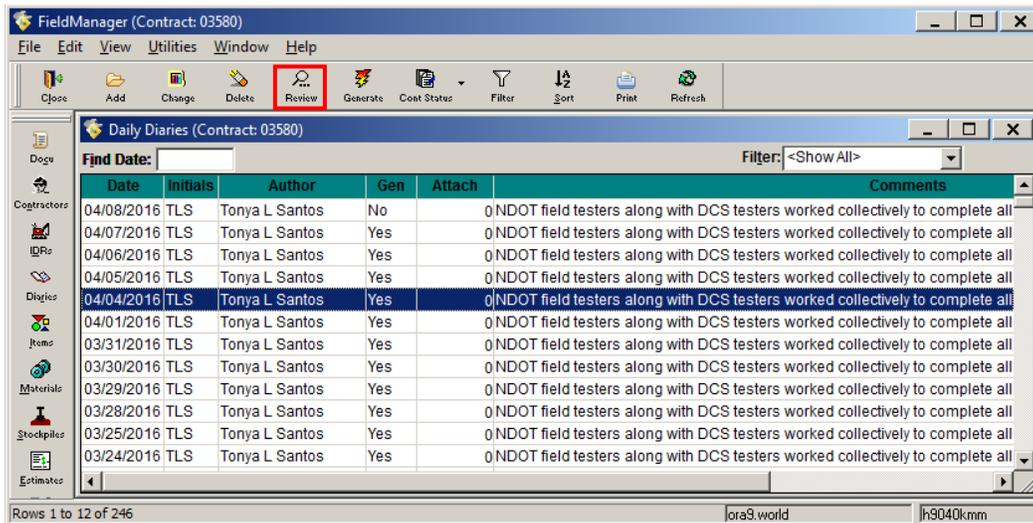

Figure 8-18. Daily Diaries List Window
1. From the Daily Diaries list window select the Diary and click **Review** on the Window Toolbar (Figure 8-18).